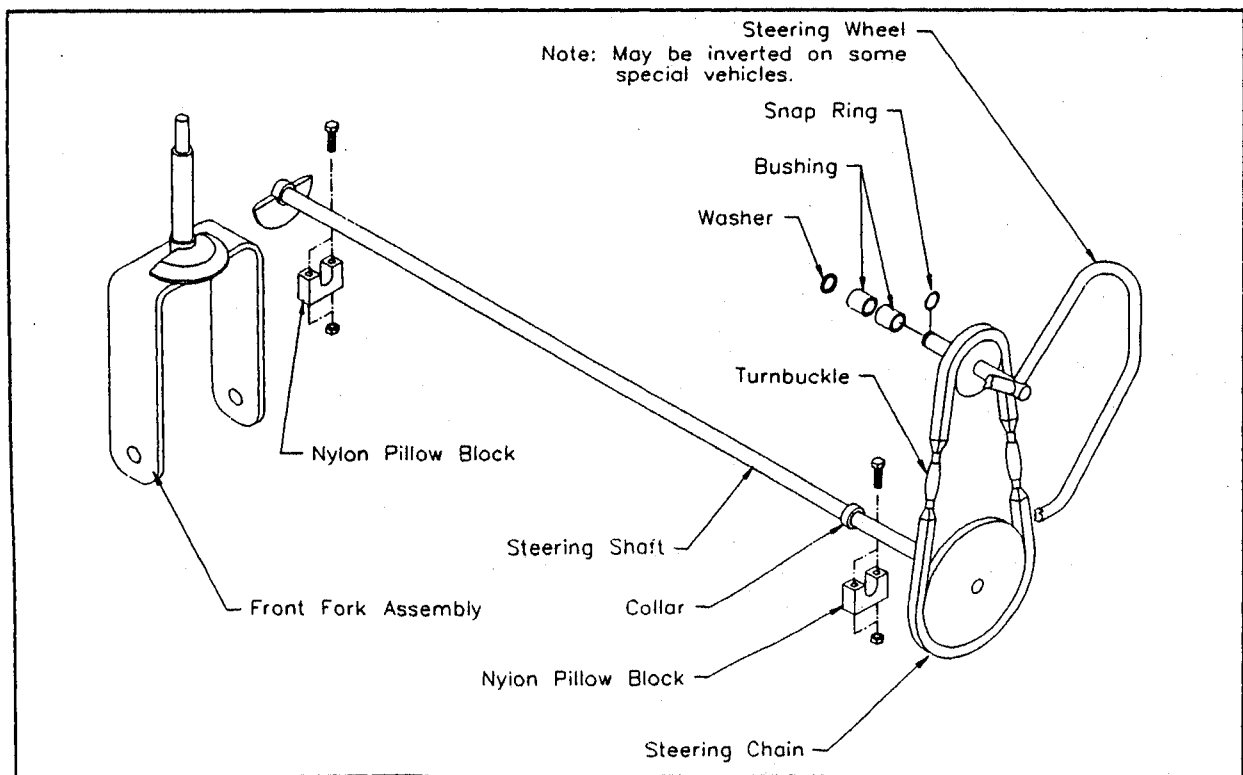

Figure 3-9 (SC steering)
- Remove the steering chain by loosening the chain turnbuckle enough to slip the chain over either sprocket. Note the position of the turnbuckles for proper reassembly (SC1-59)(see figure 3-9).
- Remove the steering chain by loosening the chain turnbuckle enough to slip the chain over either sprocket. Note the position of the turnbuckles for proper reassembly (see figure 3-9).